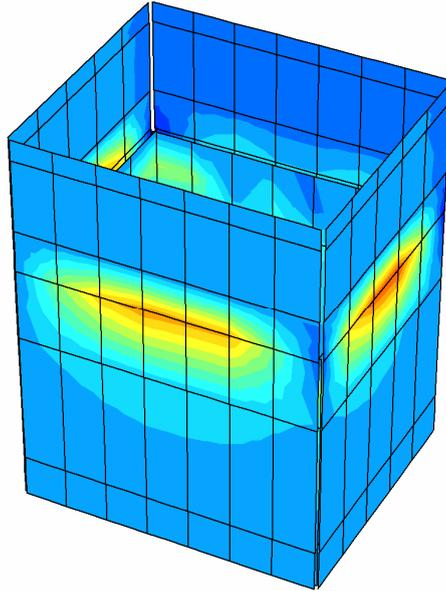

Figure 7.7 Excess pore pressures in the interfaces along the sheet pile wall at the end of the final phase
- Similarly as for the wall, open an output window for the interfaces and display the excess pore pressures at the end of the final phase (see Figure 7.7).